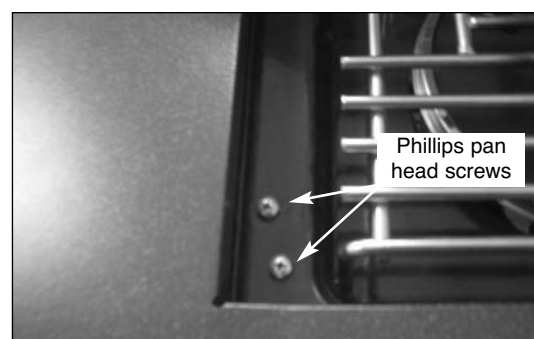

Fig 15
18. Open the side burner door, remove the two phillips pane head screws holding the side burner orifice bracket in position. (See Fig. 15)
22. Use the two screws removed in step 18 on page 4 to secure the bracket in position. (See Fig. 15 on page 4)